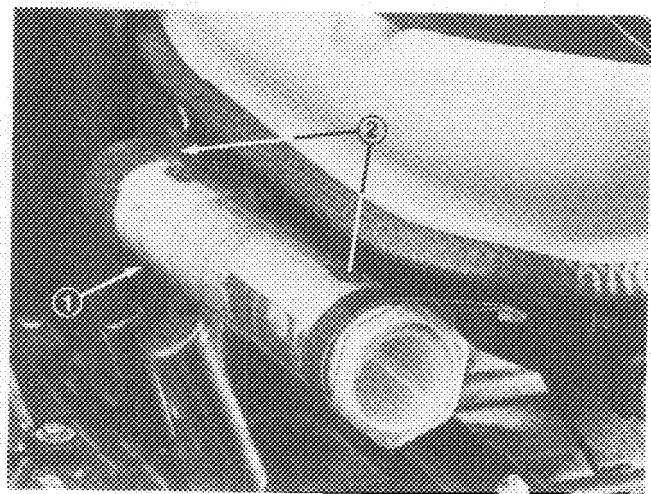

Figure 9
1. Loosely mount (2) R-clamps to outer holes in right side of seat with (2) capscrews and flatwashers (supplied with seat kit) (Fig. 9).